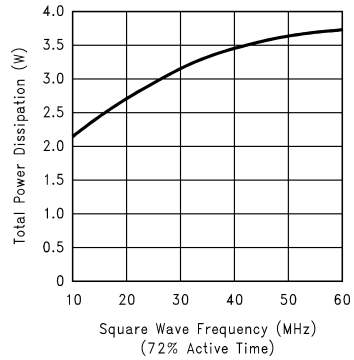

FIGURE 6. Power Dissipation vs Frequency
*Figure 6* shows the maximum power dissipation of the LM2439 vs Frequency when all three channels of the device are driving an 8 pF load with a  $40 V_{p-p}$  alternating one pixel on, one pixel off signal. The graph assumes a 72% active time (device operating at the specified frequency) which is typical in a monitor application. The other 28% of the time the device is assumed to be sitting at the black level (65V in this case). This graph gives the designer the information needed to determine the heat sink requirement for the application. The designer should note that if the load capacitance is increased the AC component of the total power dissipation will also increase.
If the maximum expected ambient temperature is  $70^{\circ}\text{C}$  and the maximum power dissipation is 3.4W (from *Figure 6*, 40 MHz bandwidth) then a maximum heat sink thermal resistance can be calculated: